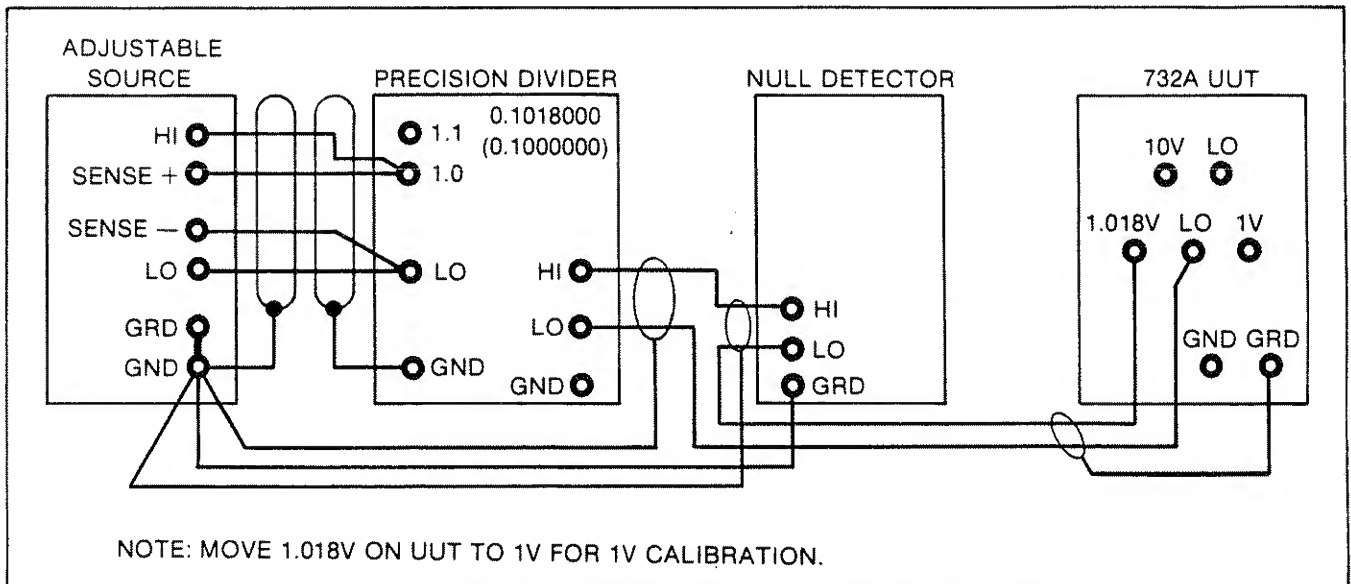

Figure 4-11. Calibration of 1.081V (and 1V) to 732A Procedure 'B'
26. Connect the equipment as shown in Figure 4-11. Reset the Null Detector to the 3V range.